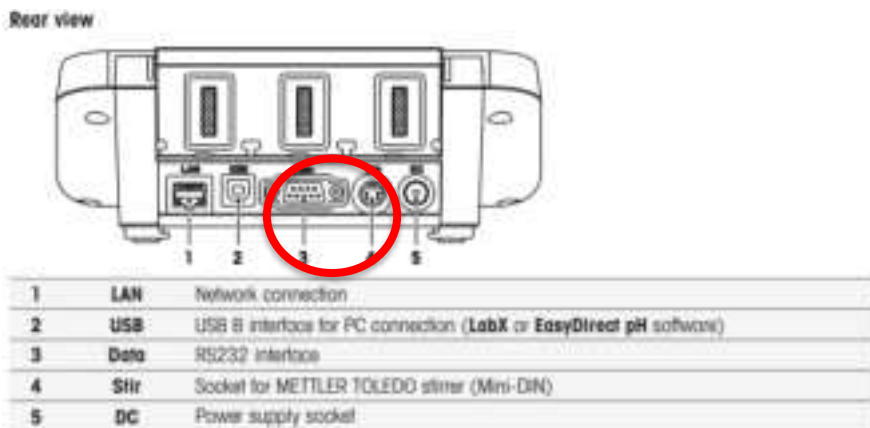

Figure 1 Data port on asset
8. Locate the data port on the asset (shown in Figure 1) to which the Element-D will connect and plug in the connection cable: